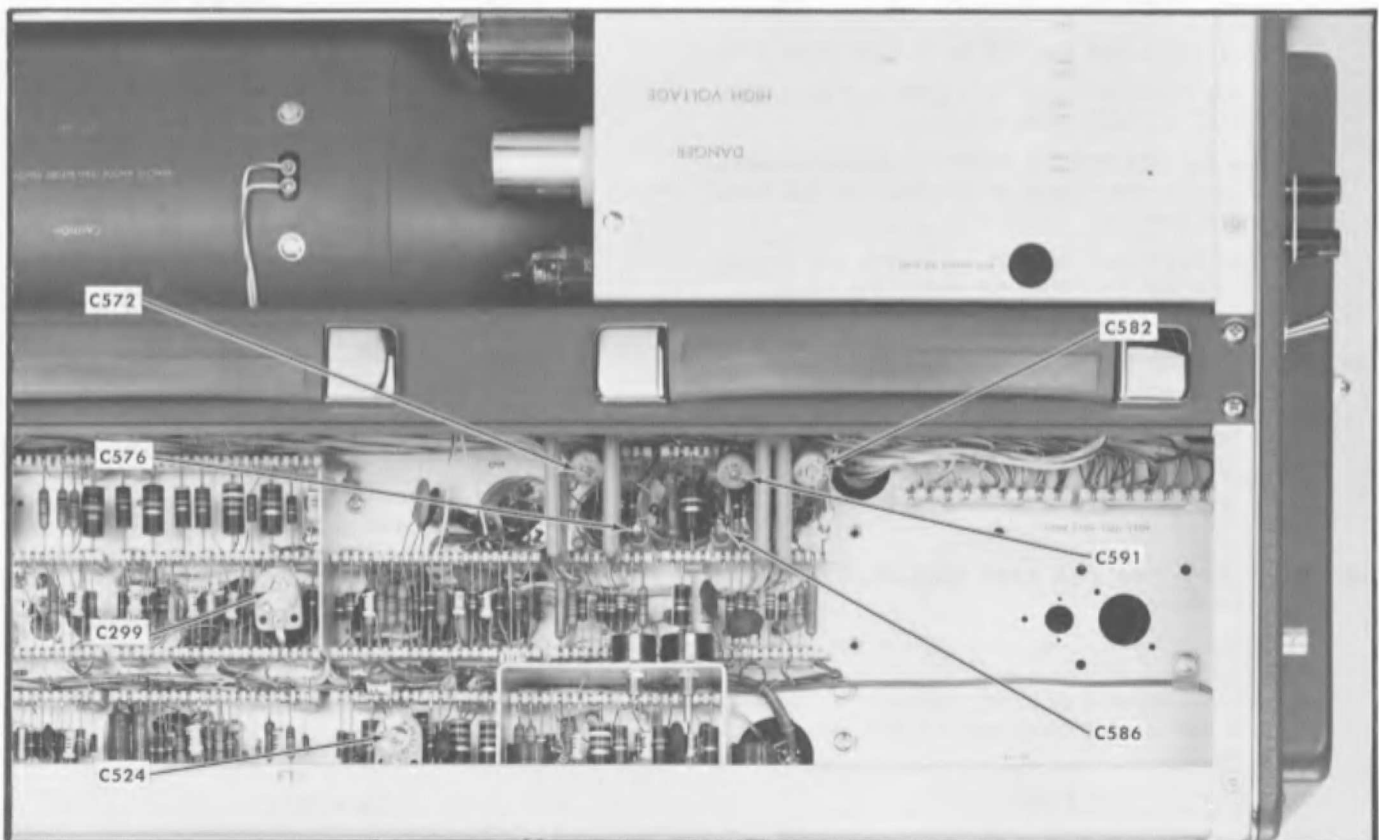

Fig. 5-8. Calibration adjustment locations (top right side view).
If the first half of the sweep is non-linear and 1-cm spacing of the time markers is difficult to obtain, preadjust C299 (see Fig. 5-8) to improve sweep linearity.
- Adjust C299 (see Fig. 5-8) for proper timing of 1 cycle per cm from the 1-cm to 9-cm graticule lines. (Disregard the first sine wave near the 0-cm graticule line.)
- g. Check that C576 and C586 (see Fig. 5-8) slug-adjusting screws are about six turns above the metal wiper contacts of the capacitors.
- h. Adjust C572 and C582 (see Fig. 5-8) for maximum sweep expansion. (Use a low-capacitance alignment tool when making the adjustments.)
Adjust C591 (see Fig. 5-8) for best display linearity of 1 cycle per 2 cm.